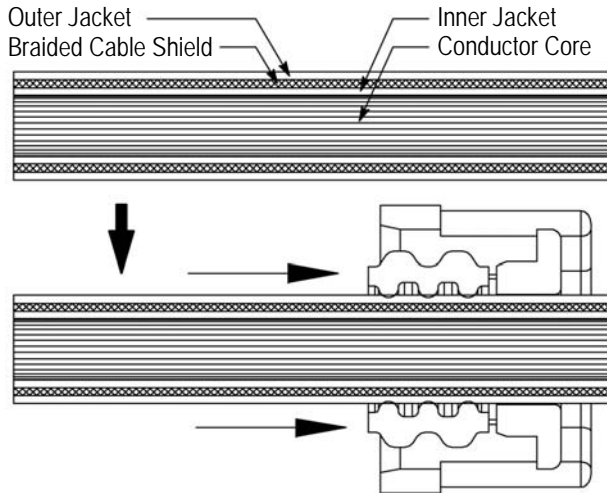

Figure 2
- Slide cable seal retainer 1587525-[ ] first, then cable seal 1587530-[ ] onto the cable 1587704-[ ] as shown in Figure 2.